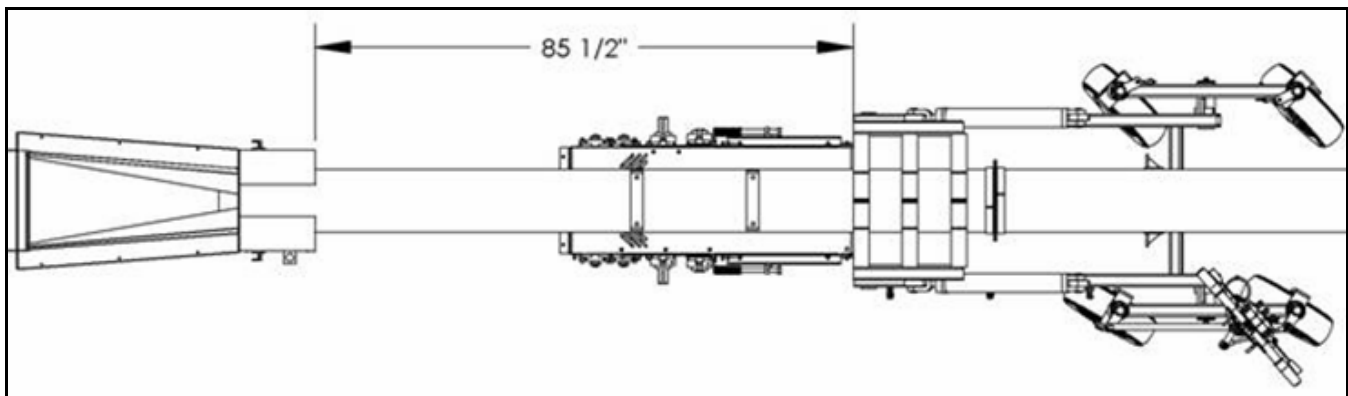
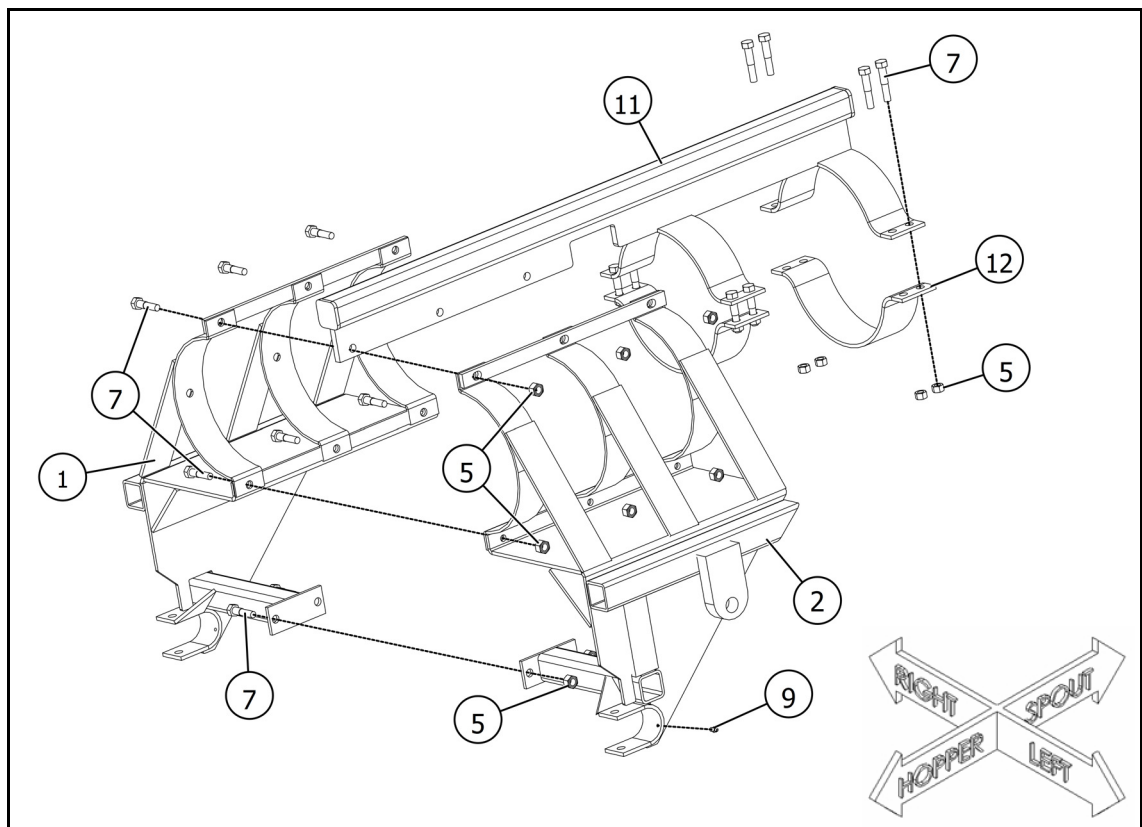

Figure 3.1 Orientation and Dimension for Mounting Wheel Move to Conveyor Tube
Figure 3.2 Wheel Move Base
1. Noting orientation (see Figure 3.1), attach the wheel move base right (1), mover flange support (11), wheel move base left (2), and 3" U-clamps (12) to the conveyor hopper tube with 1/2" x 2-1/2" bolts (7) and 1/2" locknuts (5) (see Figure 3.2). Tighten the bolts.